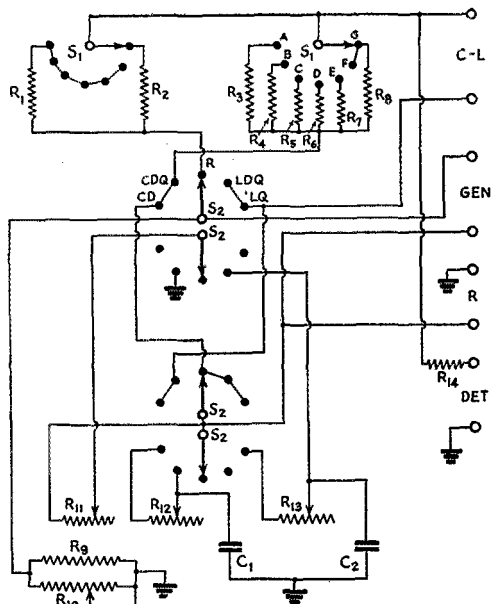

Fig. 1 -- Circuit diagram of the impedance bridge.
The complete circuit diagram of the instrument is given in Fig. 1. It includes a switching arrangement whereby any of the basic bridge circuits shown in Fig. 2 may be obtained.
In Fig. 1, when selector switch S_2 is in the position marked R , the circuit is that of the Wheatstone bridge, shown in Fig. 2-A. With this arrangement any resistance value from 0.01 ohm to 1 megohm can be measured when it is connected across the terminals at the right marked R .
As an illustration, in the instrument shown in the photographs R_a is 10,000 ohms, R_b is also 10,000 ohms (except for the highest resistance range, G in Fig. 1), while the tap switch, S_1 , changes R_b in steps of 10 to 1; i.e., 1 ohm, 10 ohms, 100 ohms, etc., up to 100,000 ohms. The multiplying factors which can be applied to the resistance setting of R_v are, therefore,
In the wiring diagram of Fig. 1, R_1 and R_2 are the resistors represented by R_a , while R_3 to R_8 are the resistors represented by R_b . R_v represents the resultant of R_9 and R_{10} in parallel. When S_1 is turned to the last tap (G), R_a is changed from R_1 (10,000 ohms) to R_2 (1000 ohms). In this position, R_b (which represents R_8) has a value of 100,000 ohms. The multiplying factor for this range is, therefore,
Labels on components refer to similar components and labels in Fig. 1 and to designations in the text. The respective dials controlling each variable unit also are indicated. In A, a DeJur student galvanometer or its equivalent is suitable for G. The galvanometer is strictly necessary only for low-resistance measurements. The 1000-cycle a.c. source and headphones may be used for measuring the higher resistance values as well as for inductance and capacity.
ohms. The standard represented by *C*_s is *C*₂ in Fig. 1. It has a value of 0.01 μfd., to which the above multiplying factors are applied when determining the value of the unknown capacity. The total capacity range varies from 100 μfd.